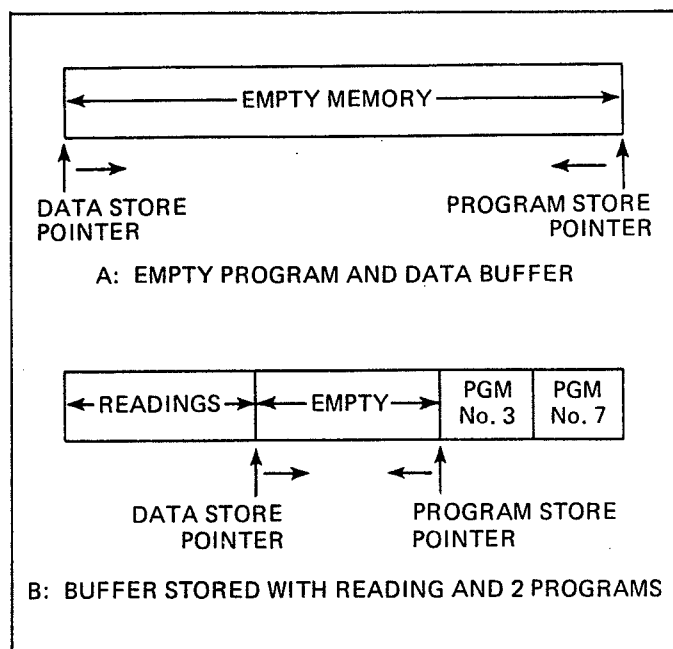

Figure 3.14 - Program and Data Buffer Storage
3.4.13.4.2 There are two pointers associated with the buffer operation as shown in Figure 3.14. The Program Store pointer points to the next available program storage location, moving right to left as programs are stored. The Data Store pointer points to the next available data storage, moving left to right as readings are stored. The Data Store pointer bumps into the Program Store pointer when the memory block is full. Hence, no more readings are stored until the data buffer is cleared.